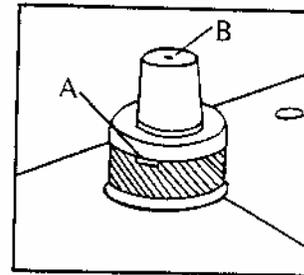
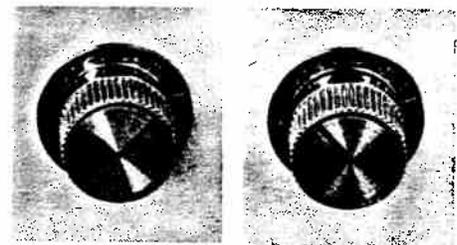

Fig. 17
Fig.18
General Sewing. Usually for normal sewing the pressure bar cap or darning release, (B, Fig. 17) is at its lowest position and the drop feed knob is turned to " UP " position, (Fig. 18).
Sewing Thin or Light Weight Fabrics. When lighter pressure is required to sew satisfactorily on thin silk or flimsy material, the pressure cap should be about halfway down. Release all the way by pressing the snap lock, (A, Fig. 17) and then press cap (B) down again to halfway spot.
Darning and Mending. In order to move the fabric freely in any direction for darning and mending, release the pressure cap (B, Fig. 17) completely by pressing down on the snap lock, (A, Fig. 17)
Turn drop feed control (Fig. 18) to " DOWN " position. This will drop the feed well below the needle plate. To return feed to normal position, turn knob to "DOWN" position.